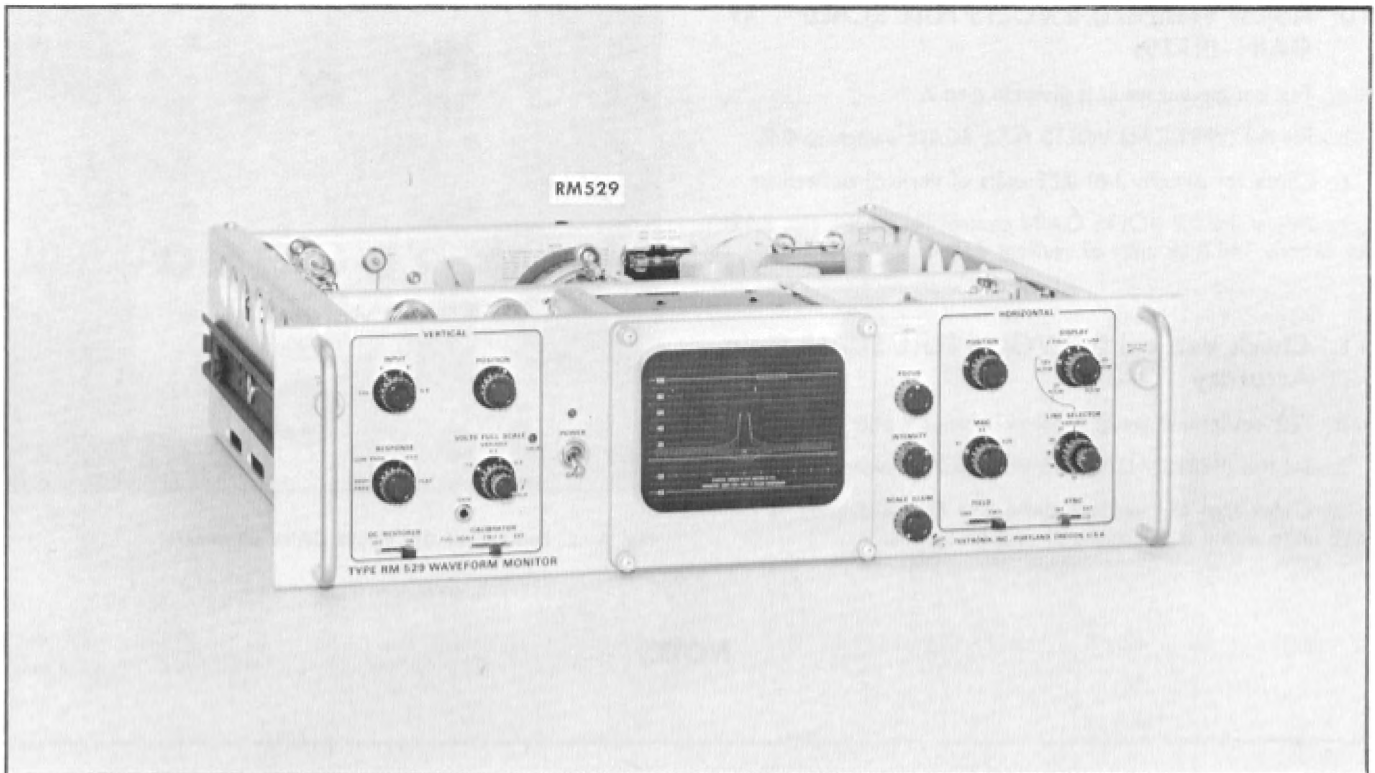

Fig. 6-10. Test equipment required for steps 9 through 11.
- a. Test equipment setup is shown in Fig. 6-10.